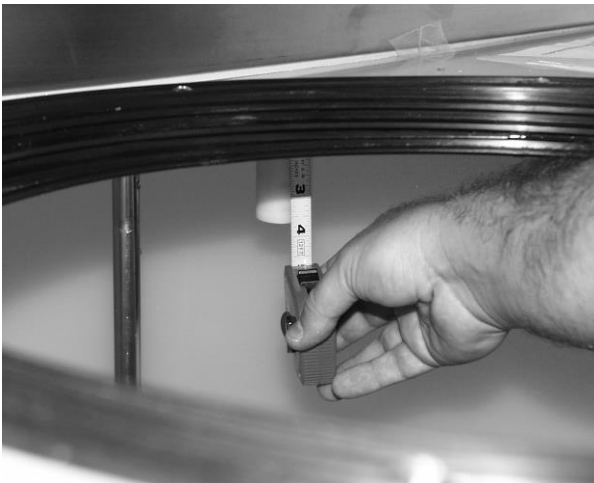

Figure 10
2. Measure and record the distance from the bottom of the Final Fill Sensor housing to the top of the Dissolution Tank (interior). Accurate measurement is crucial. For accurate measurement, make sure the tape measure/ruler does not rest on the lower-jam-nut. The lower-jam-nut is inside the Dissolution Tank. Measurement should be accurate to at least 1/16 of an inch. *See Figures 10 & 11.*